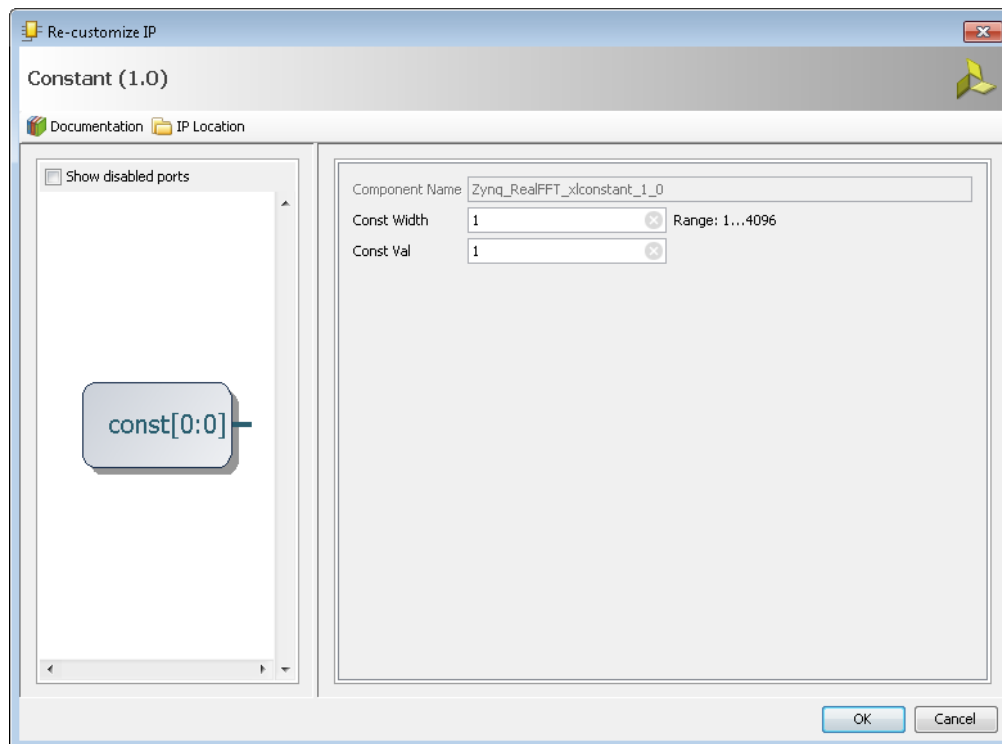

Figure 255: Create A Constant 1 Tie-Off
- b. Double-click the **xlconstant_1** component and verify that the Const Val field in the Customize IP dialog is set to '1' (**Figure 255**).